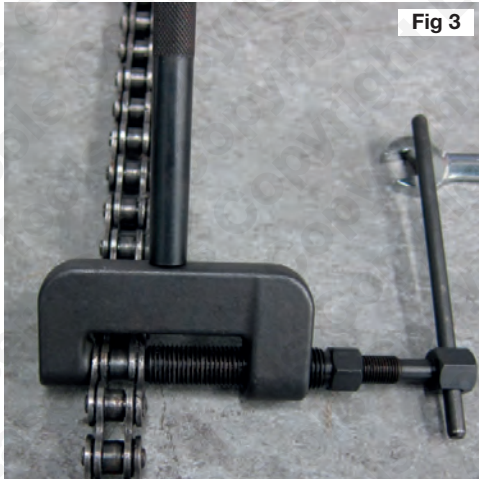

Fig 3
6. Fit the assembly to the chain on the link to be broken as shown in Fig 3.